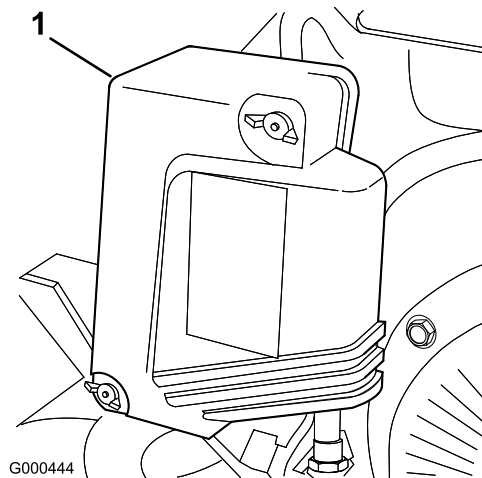

Figure 21
2. Remove the wing nuts securing the air cleaner cover and remove the cover (Figure 21).